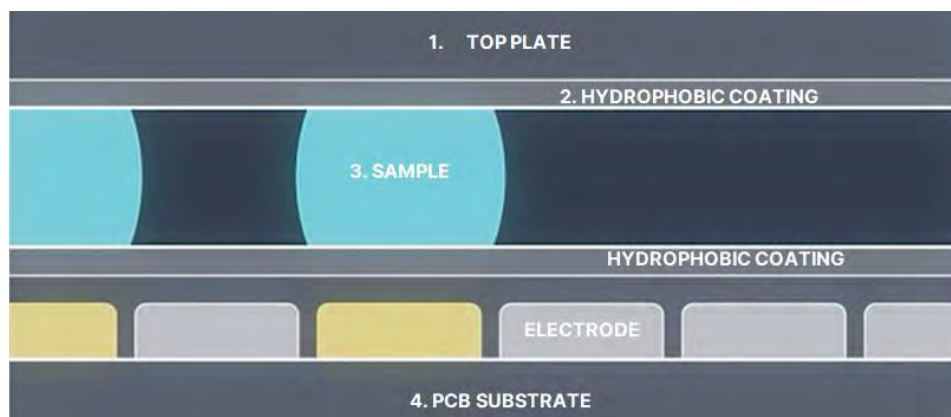

Figure 3.7: Alto cartridge side view.
3. **Sample:** The sample is the blue droplet shown in Figure 3.7. The sample refers to the solution in the wells. This could be running buffer, regeneration buffer, activation solutions, surface cleaning solutions, ligands, or analytes.
- Electrodes are located on the top surface of the PCB substrate that can be turned on or off to move droplets onto or off an electrode. The electrodes shaded in yellow in Figure 3.7 are ON and the electrodes shaded in grey are OFF.